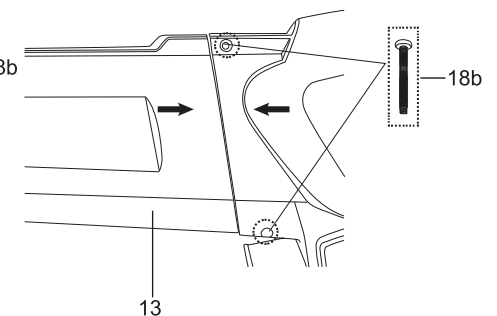

Fig. 2
2. Align the upper tube (13) to the motor unit and insert it all the way to the stop. Secure the tube (13) with the bolt (18b). (Fig. 2)